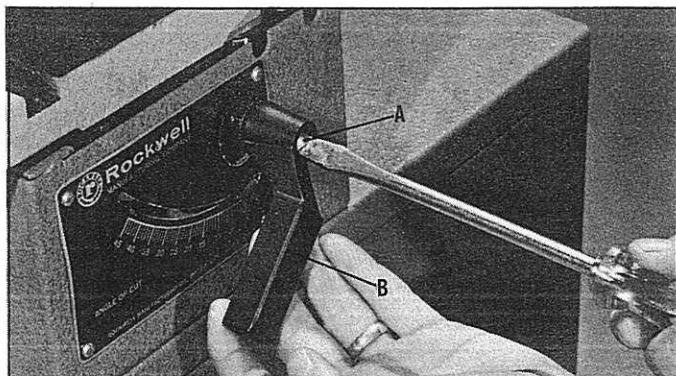

Fig. 7.
1. Loosen screw (A) Fig. 7.
2. Pull out and reposition the handle (B) so that it locks in a convenient position and tighten screw (A) Fig. 7.